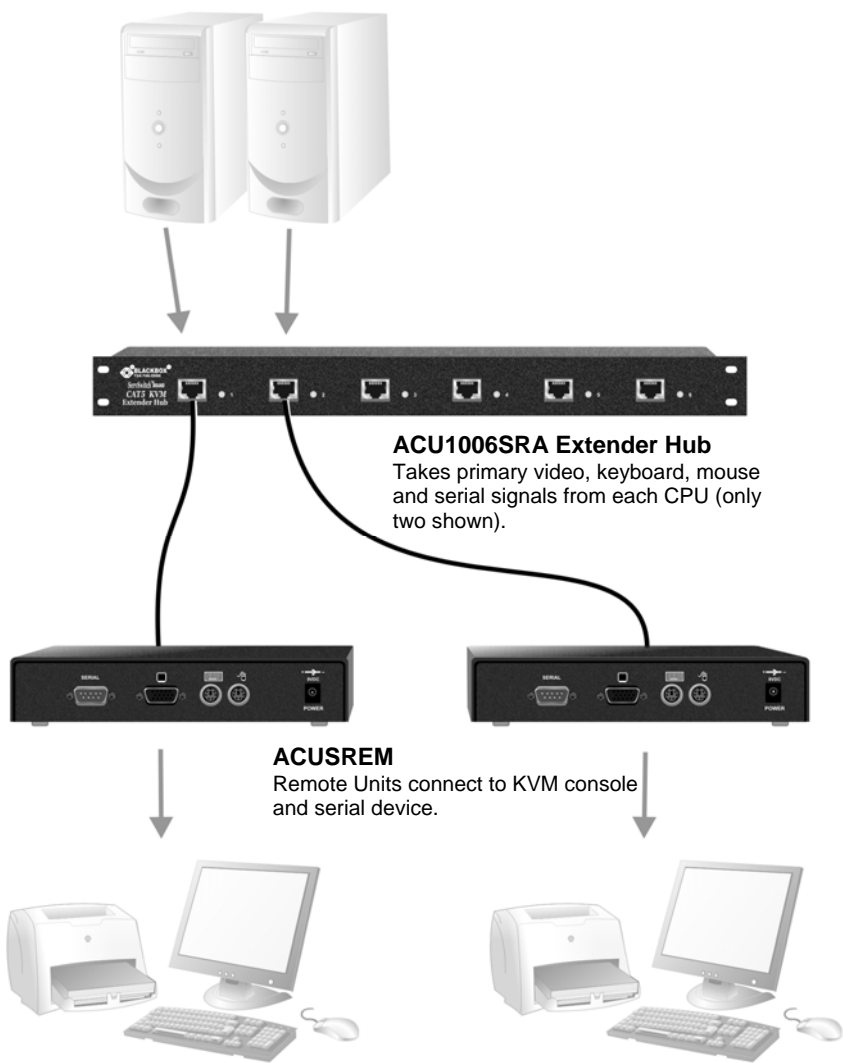

Figure 14 Serial extension for up to six CPUs
- Simple system using ACU1006RA Local Hub and ACUSREM Remote Units to extend serial and KVM for up to six PCs (Figure 14).